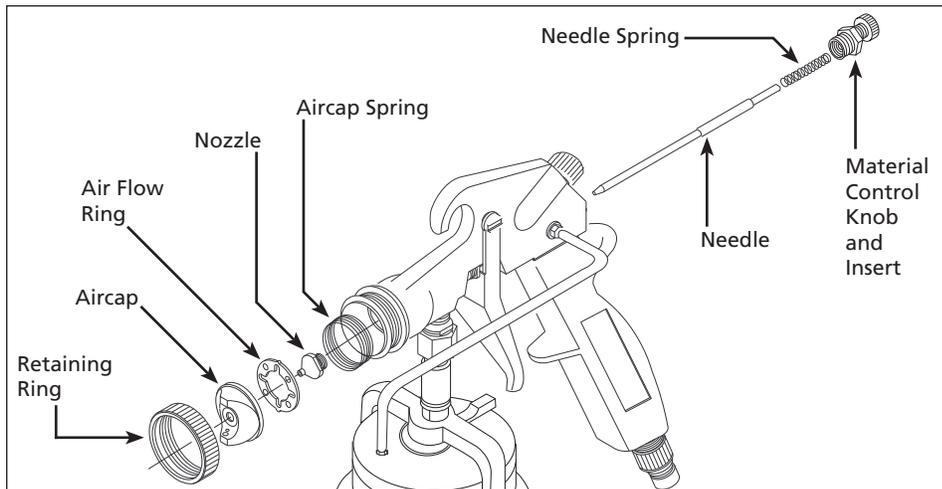

Figure 2 - Needle/Nozzle Installation
1. Remove retaining ring, aircap, air flow ring, aircap spring, nozzle, material control knob, needle spring, and needle assembly (Fig. 2).
**NOTICE** The female quick-connect fitting outer sleeve is spring loaded and must be pulled back to be attached or removed from the gun (Fig. 2).